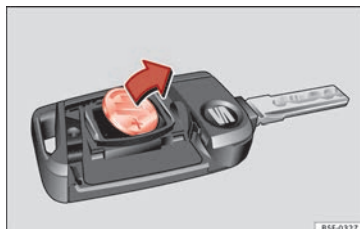

Fig. 138 Vehicle key: removing the battery.
- Extract the battery from the compartment using a suitable thin object » **Fig. 138**.
- Place the new battery in the compartment as shown » **Fig. 138**, pressing in the opposite direction to that shown by the arrow » .